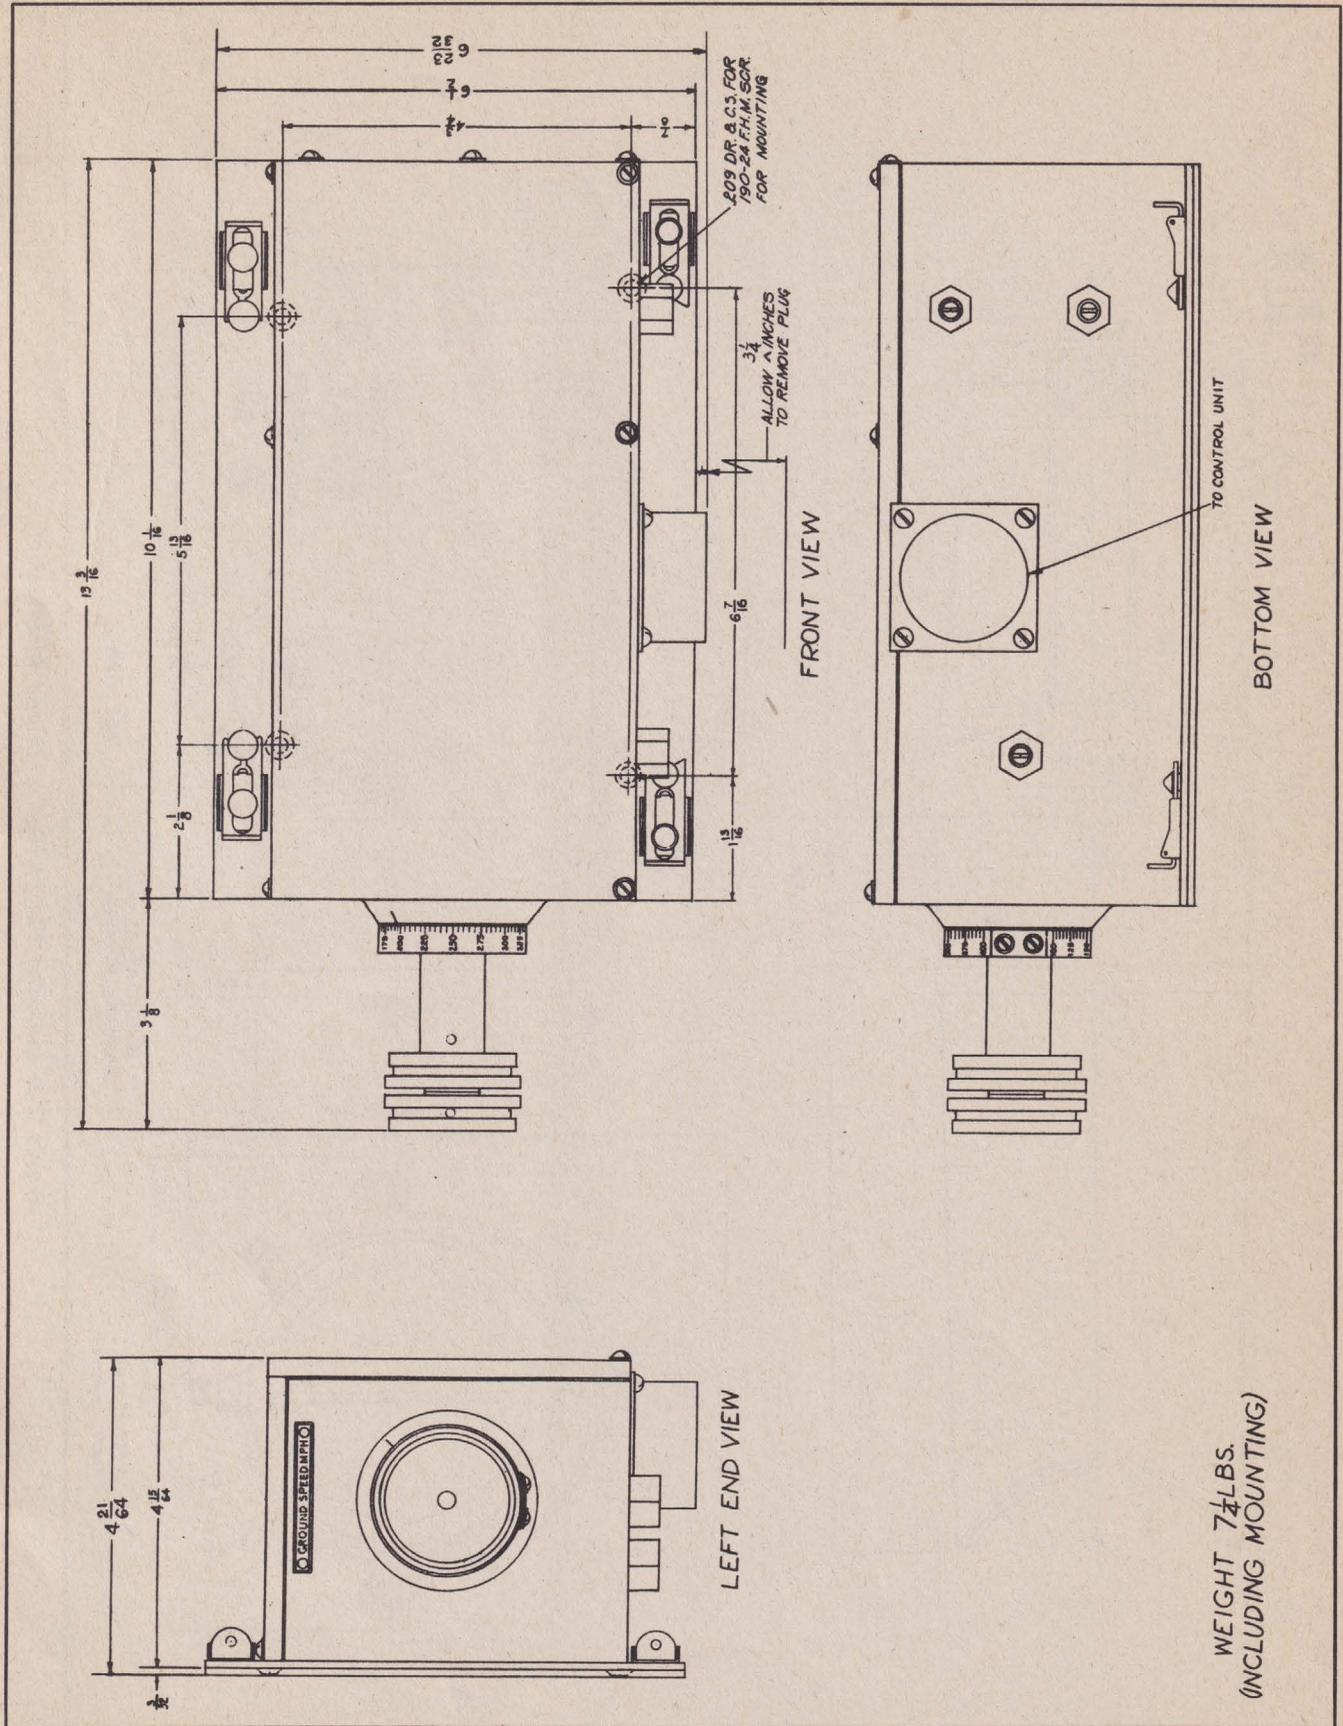

Figure 2-4. Tracking Unit C-7/APQ-5—Outline Dimensions
(4) TRACKING UNIT C-7/APQ-5 AND MOUNTING MT-17/APQ-5.—Locate this unit aft of the stabilizer above the operator's knees, or to the left of the stabilizer so that the operating knobs may be conveniently grasped by the operator and the dials and associated index marks may be easily seen. The unit is provided with a snapslide base and mounting plate with countersunk holes for No. 10 flathead machine screws for attachment to the airplane. (See fig. 2-4.)
(5) INDICATOR ID-3/APQ-5 AND MOUNTING MT-18/APQ-5.—Mount the indicator so that the operator can conveniently place his face against the visor to view the cathode-ray tube while grasping the operating knobs of the tracking unit and the knobs of the turn control system. To facilitate this, the indicator unit mounting permits the indicator unit to be tilted approximately